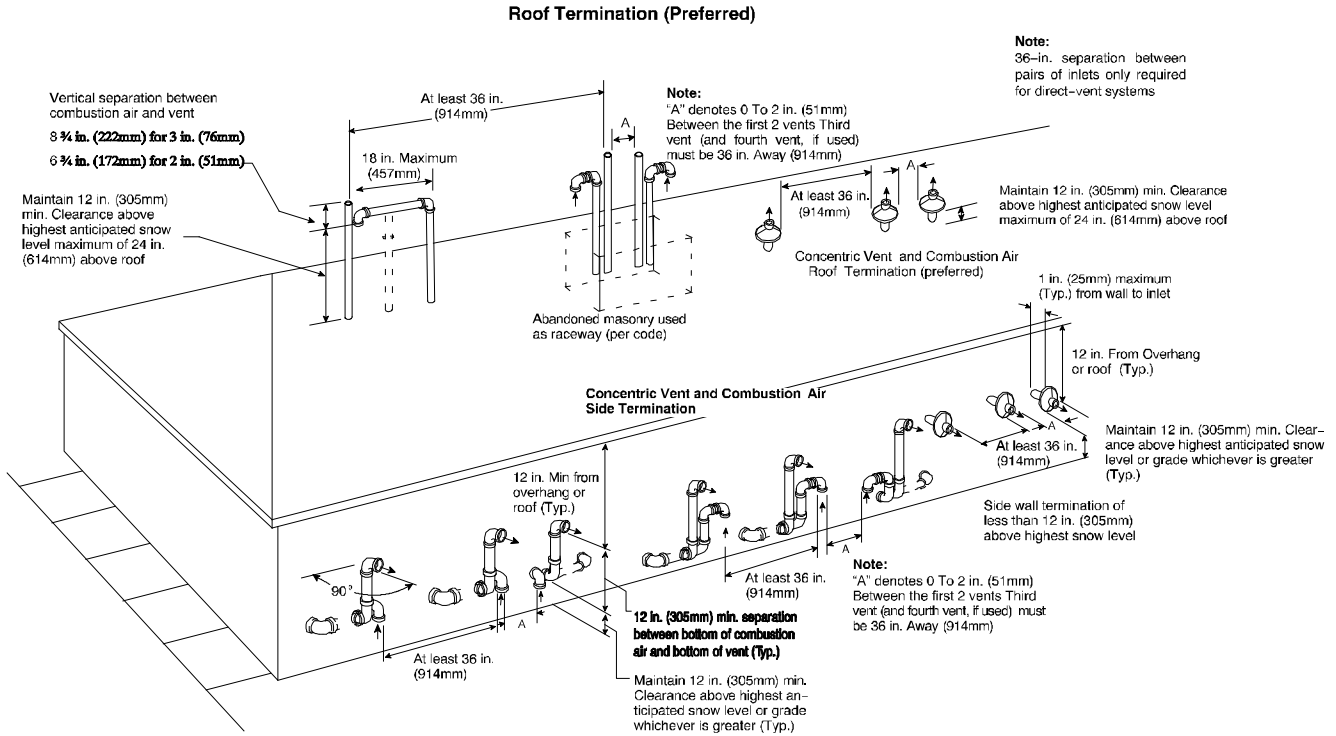
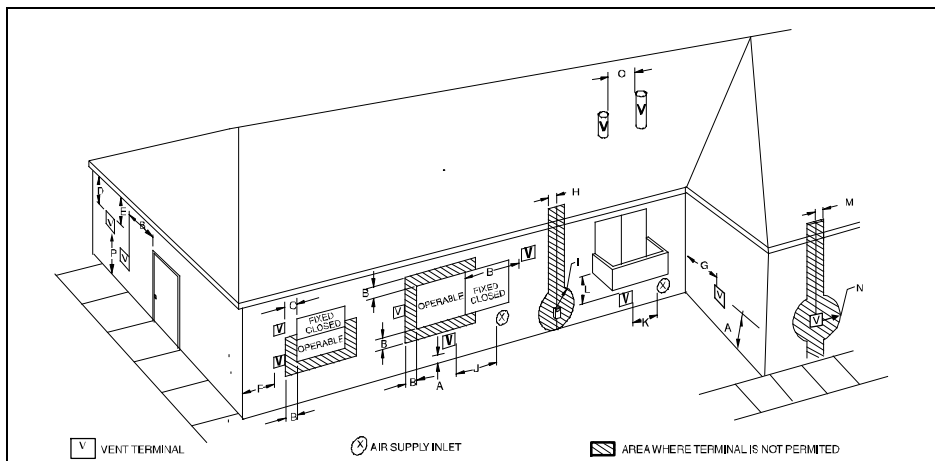

Fig. 39 - Combustion Air and Vent Pipe Termination for Direct Vent (2-Pipe) System
Fig. 42 - Ventilated Combustion Air and Non-Direct Vent Termination Clearance
An abandoned masonry chimney may be used as a raceway for properly insulated and supported combustion-air (when applicable) and vent pipes. Each furnace must have its own set of combustion-air and vent pipes and be terminated individually, as shown in Fig. 39 for Direct Vent (2-Pipe) system, or Fig. 40 for single-pipe or ventilated combustion air option.
In a ventilated combustion air option, the vent terminates and discharges the flue products directly to the outdoors similar to a direct vent system. See Fig. 42 for references to clearances required by National code authorities.
In a non direct-vent (1-pipe) system, all air for combustion is taken from the area adjacent to furnace, and all flue products are discharged to outdoor atmosphere. Air for combustion must be supplied as described in the Air For Combustion and Ventilation Section. Do not use an abandoned chimney to supply outside air to the furnace. See Fig. 42 for references to vent clearances required by National code authorities.
For vent termination clearance, references to National codes are shown in Fig. 41 for Direct Vent/2-Pipe system and Fig. 42 for Ventilated Combustion Air/Non-direct Vent/1-Pipe system. For exterior termination arrangements, refer to Fig. 39 for Direct Vent/2-Pipe system and Fig. 40 for Ventilated Combustion Air/Non-Direct/1-Pipe system. Contact Local code authorities for other requirements to and/or exemptions from the National codes shown in the figures.
1. Comply with all clearance requirements stated in Fig. 41 or Fig. 42 per application.
The vent pipe for a Non Direct Vent (1-pipe) system must terminate outdoors. See Fig. 42 for references to vent clearances required by National Code authorities. Allowable vent terminations are shown in Fig. 40.